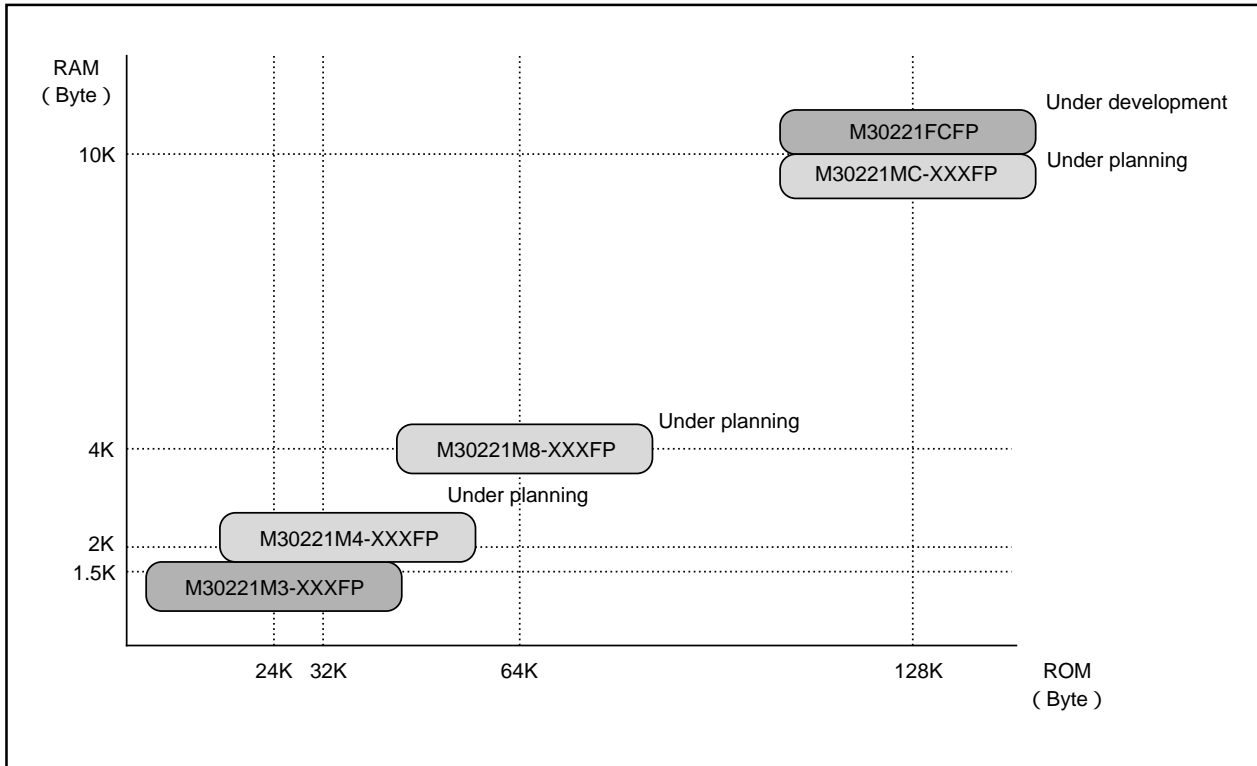
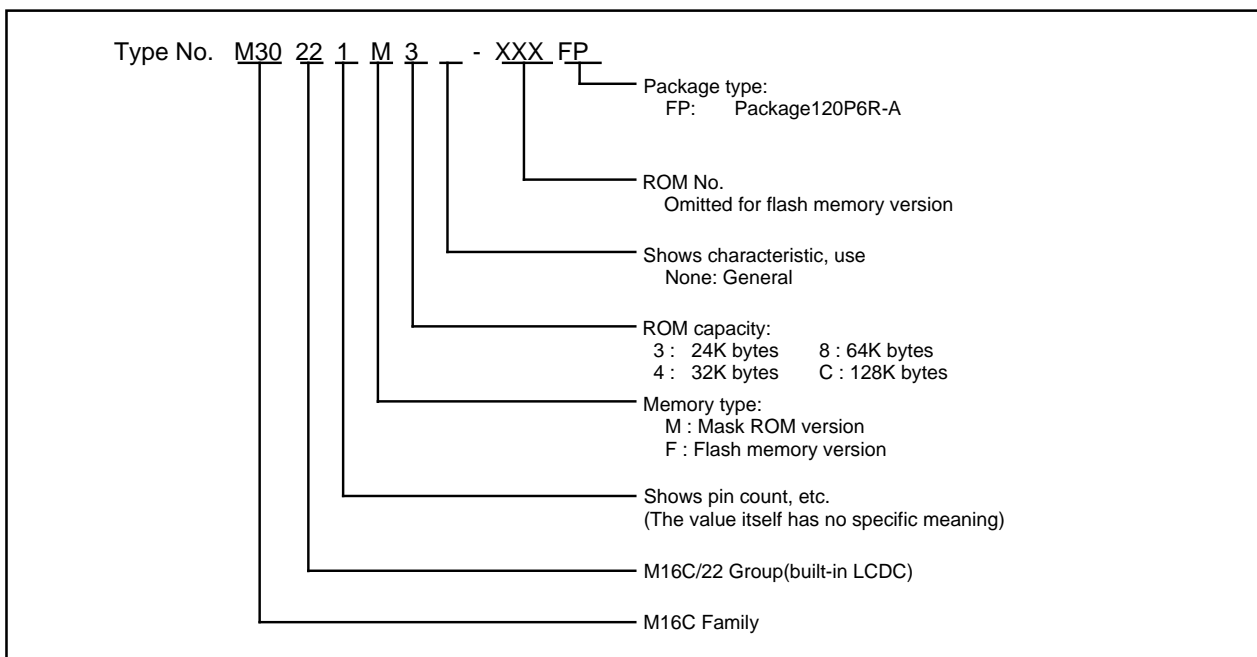

Figure 1.1.3. Memory expansion
Figure 1.1.4. Type No., memory size, and package
- Memory capacity See Figure 1.1.3 Memory Expansion
Figure 1.1.3 shows the memory expansion and figure 1.1.4 shows the Type No., memory size, and package.